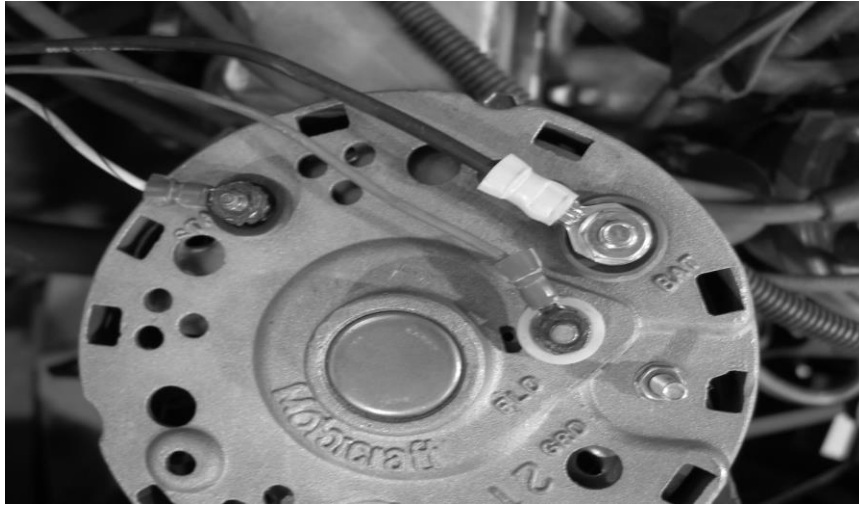
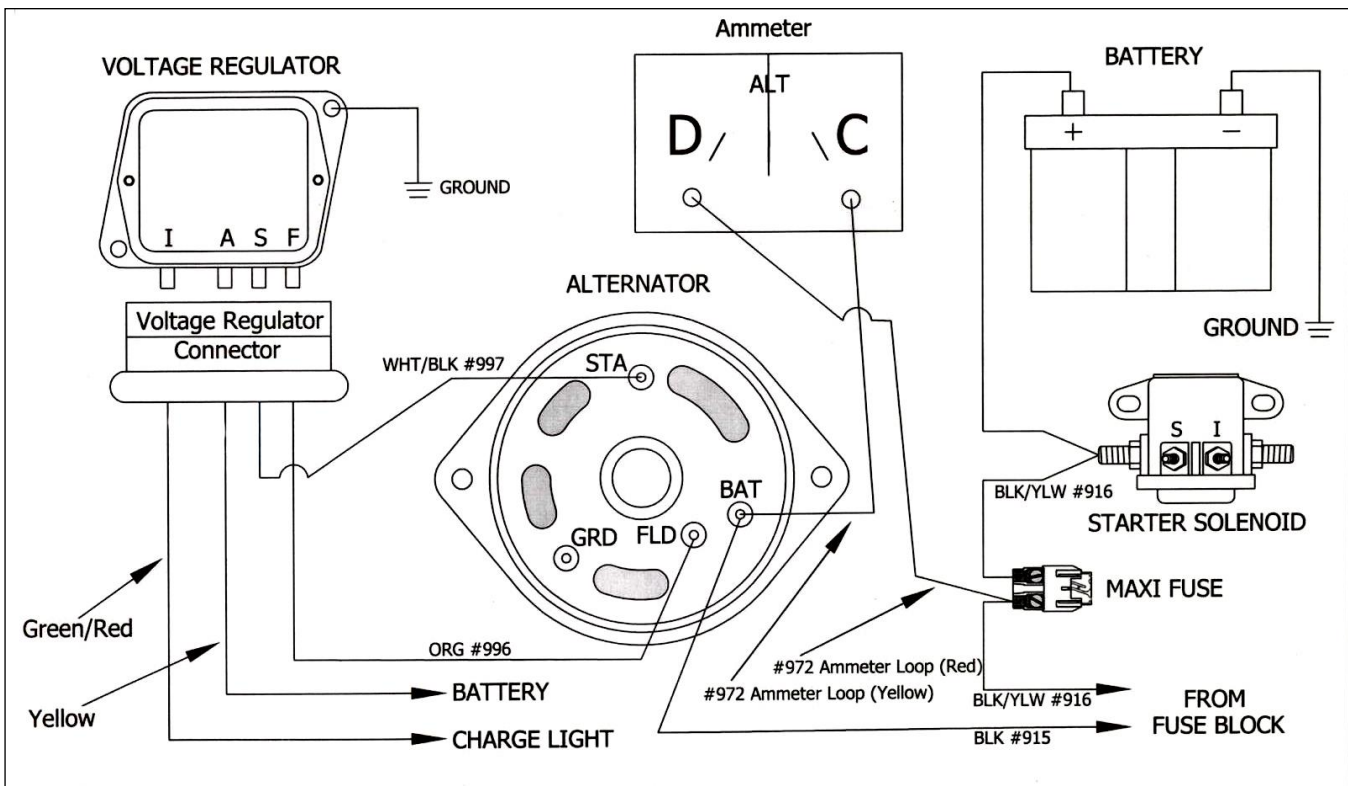

Figure 7-2 Alternator Connections '67-'77 Models
Figure 7-7 Alternator/Regulator/Solenoid Connections
7.1.1 Connect PASSENGER SIDE SECTION wire #915 (Blk) to the Alternator Output post marked "Bat". **See Figure 7-2. If the truck being rewired has an ammeter, it will be necessary to connect the #972 Red and #972 Yellow wires as illustrated in Figure 7-7 on page 14.**
7.1.2 Connect PASSENGER SIDE SECTION wire #996 (Org) to the Alternator post marked "FLD" for Field. Next connect wire #997 (Wht/Blk) to the Alternator post marked "STA" for Stator. **See Figure 7-2**
- 7.1.6** Using the provided ring terminals connect the PASSENGER SIDE SECTION black/yellow wire #916 to one side of Maxi Fuse Base. Using the remaining portion of wire #916 connect the other side of the Maxi Fuse Base to the Battery side of the starter solenoid. **See Figure 7-7.**